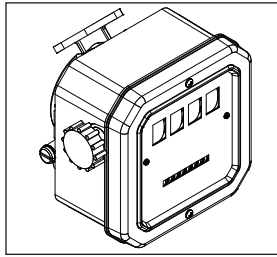

Figure 3
The large meter display represents the Batch Total for each fuel delivery. Before dispensing, reset the Batch Total to zero by turning the knob. (Figure 3)
2. Reset the meter counter to zero by turning the reset knob. (Figure 3)